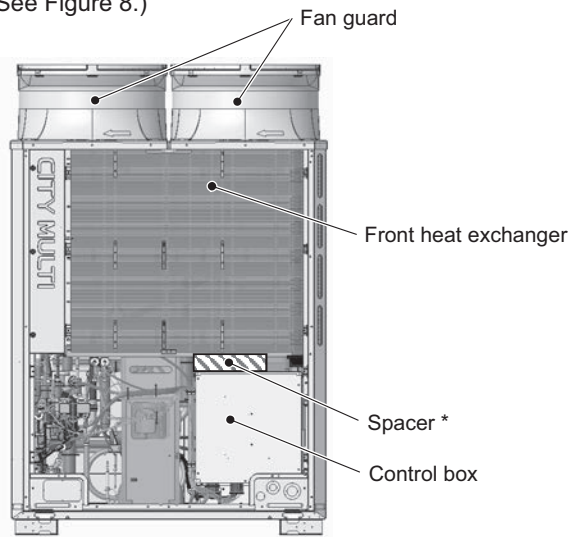
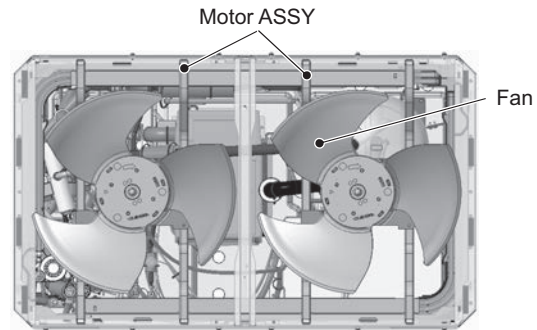

Figure 7
Figure 8
- (9) Remove the fan guard by unscrewing the 12 screws. (See Figure 7.)
- (10) Insert a spacer between the control box and the heat exchanger.
- (11) Remove the motor ASSY by unscrewing the 8 screws, using caution not to damage the motor wiring or the fan. (See Figure 8.)